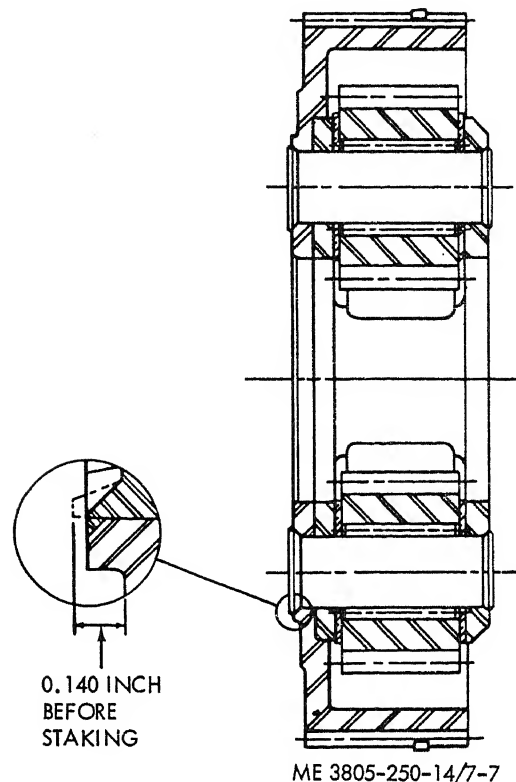

Figure 7-7. Reverse range planetary pinion pin installation.
(13) Place the carrier and pinions on the clutch hub (108). Align the hub and carrier holes with the aligning tool. Start a chilled pin (103) into the pin bore and press it in until it projects  $0.140 \pm 0.010$  inch beyond the face of the clutch hub as shown in figure 7-7. Repeat for each pinion.